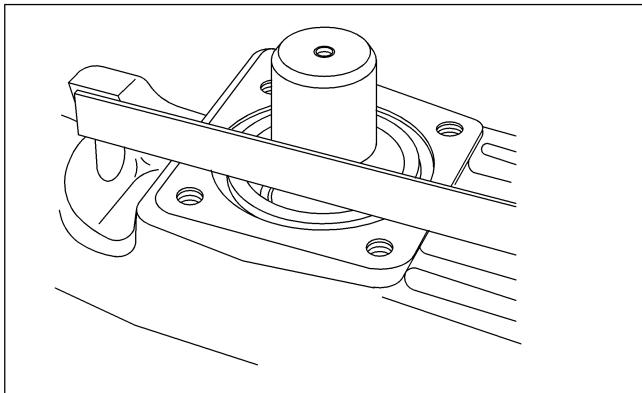

Figure 19. Pintle bearing spacer height with respect to pintle face.
- d. Set housing (33) on its side so the other pintle is up. Install bearing spacer (61) and rotate the yoke back and forth to seat bearings (63) within the bearing races. With spacer (61) fully in against the bearing race, measure the height of the spacer with respect to the housing pintle face in two places (180° apart). Use a depth micrometer to perform this measurement. See Figure 19. Average the readings to obtain a nominal value. A 0.007-0.009 inch preload is required of the pintle bearings. Calculate the necessary shims to provide this preload as follows: Assume the depth readings were 0.029 and 0.027 inch. Add the two figures together and divide by two to obtain the average. In this case the average calculated is 0.028 inch. Subtract the nominal preload of 0.008 inch from the calculated average to obtain the required shim thickness.